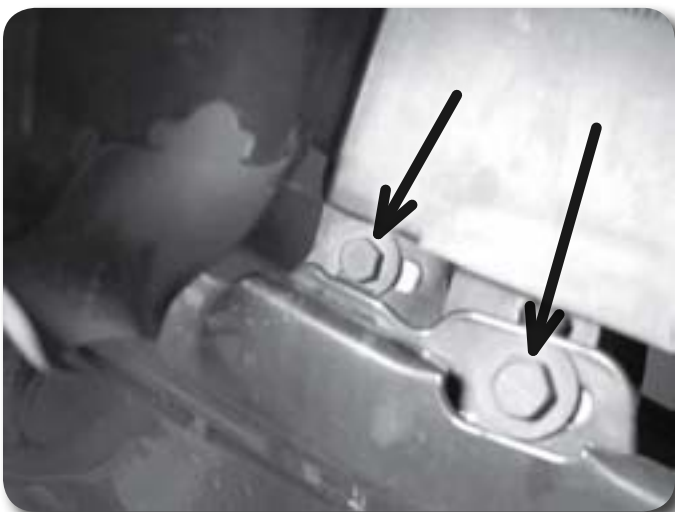
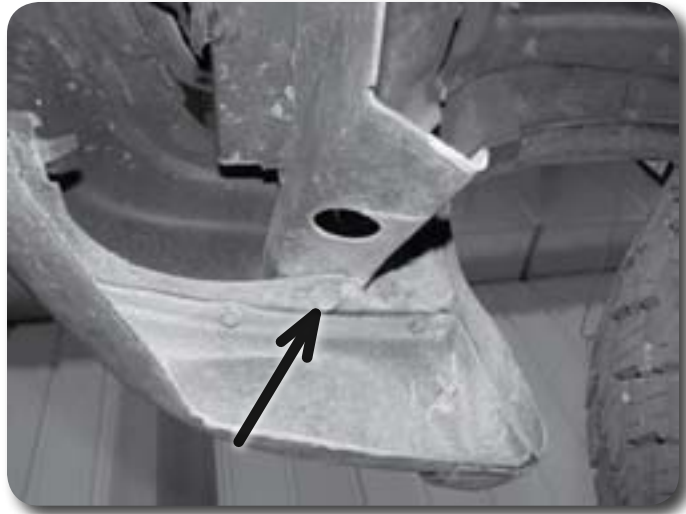

Figure 2
Figure 3
5. Remove the front bumper by removing the four bolts mounting the bumper to the frame horns **Figure 2** and two bolts (one on each side) mounting the bumper to the outside bumper brackets **Figure 3**. Remove the bumper from the vehicle. Save hardware.